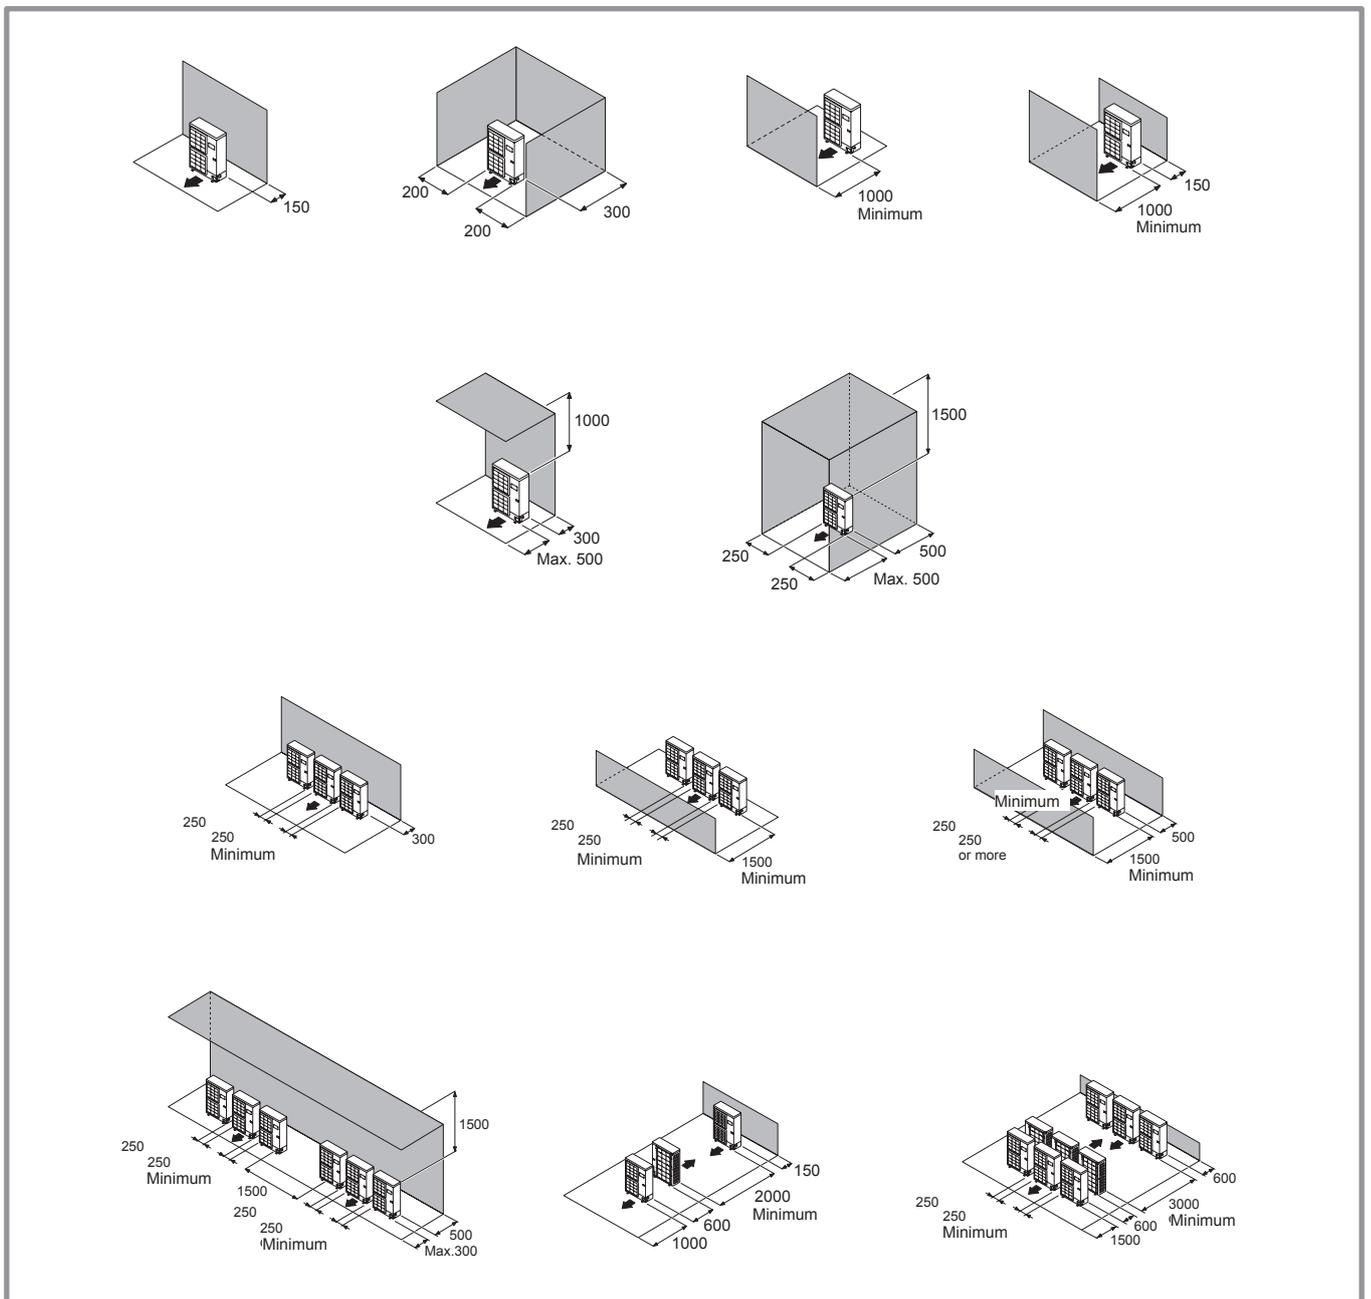

figure 11 - Minimum installation clearances around outside unit (all models)
The outdoor unit must only be installed outdoor (outdoors). If a shelter is required, it must have broad openings on the 4 walls and observe the installation clearances (figure 11).
- The unit must be easily accessible for future installation and maintenance work (figure 11).
- Nothing should obstruct the air circulation through the evaporator and from the fan (figure 11).